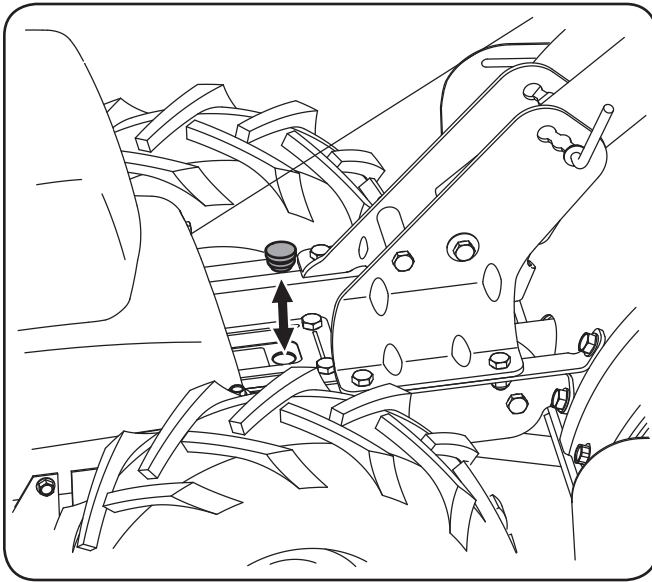

Figure 6-1
3. Remove the oil fill plug from the transmission housing and look inside the oil fill hole to locate the main drive shaft situated below the hole. See Fig. 6-1.